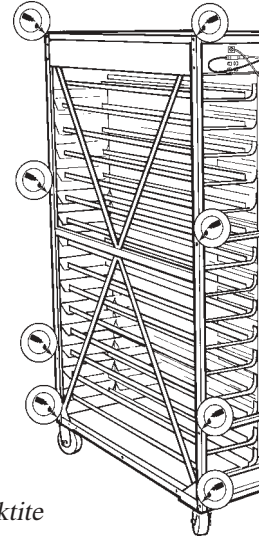

Figure 42: Application of Loctite
Step 38: When it is concluded that the rack is square and there are no points of interference with the egg trays; Loctite should be applied to the cap screws in these locations: between **both** side frame assemblies and the front rail spacers; between **both** side frame assemblies and the horizontal back rails; between **both** side frame assemblies and the bottom rail assemblies; and, between **both** side frame assemblies and the top frame assemblies (Figure 42).